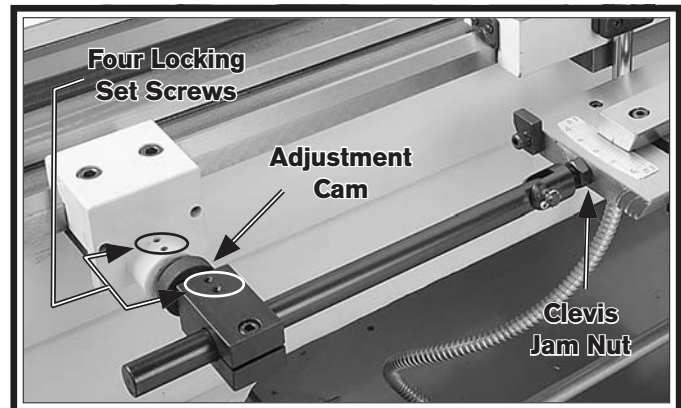

Figure 19. Deadman arm alignment.
28. Using a 3mm hex wrench, loosen the four locking set screws (**Figure 19**) that lock the adjustment cam in position.